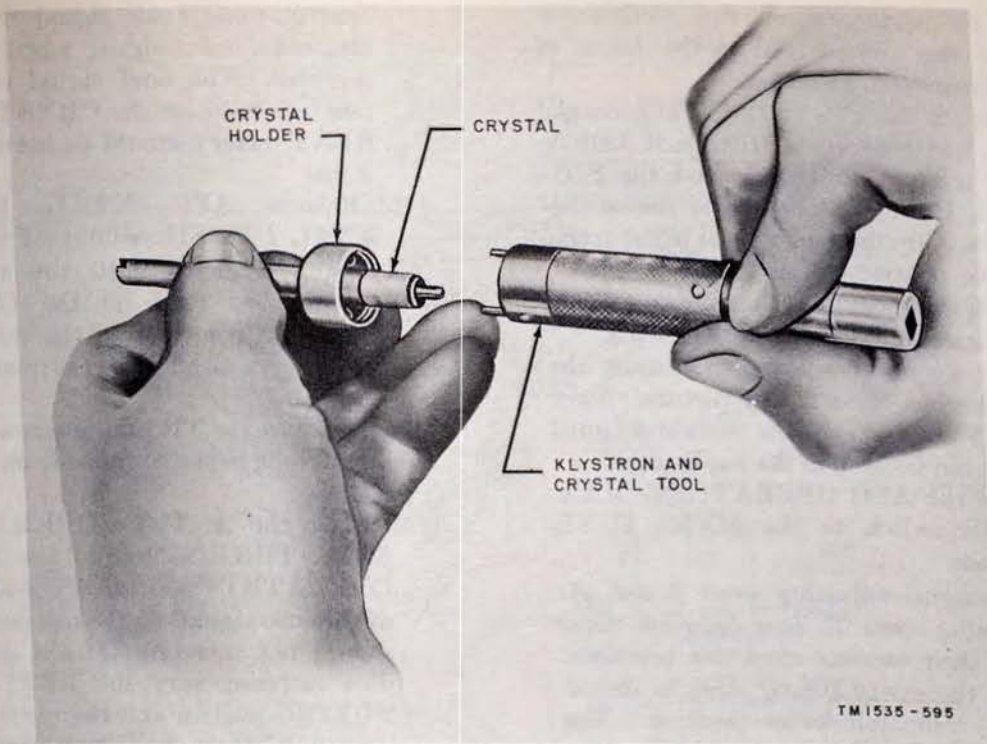

Figure 138. Removing crystals.
b. Place the klystron and crystal tool over the crystal so that its two prongs engage the holes in the crystal holder (fig. 138).
- (2) Connect the SIGNAL INPUT coaxial test lead between VIDEO jack J201 on the receiver-transmitter and the SIGNAL INPUT connector on the oscilloscope. Clip the ground lead to the frame of the receiver-transmitter.
- (3) Place the radar set in operation. Train the antenna horn on a steady target.
- (4) Turn on the oscilloscope. Adjust the oscilloscope for a steady picture. Vary GAIN control on the indicator until grass can be seen on the oscilloscope.
- (5) Place the AFC OPERATION—MAN. TUNE switch to the MAN. TUNE position.
- (6) Turn signal adjusting screw A and afc adjusting screw B, four complete turns from their extreme clockwise positions.
- (7) Turn the cavity tuning strut to its extreme counterclockwise position. Use the klystron and crystal tool (fig. 138) for this and all other cavity tuning strut adjustments. Feed the tool through the hole in the klystron insulating shield.